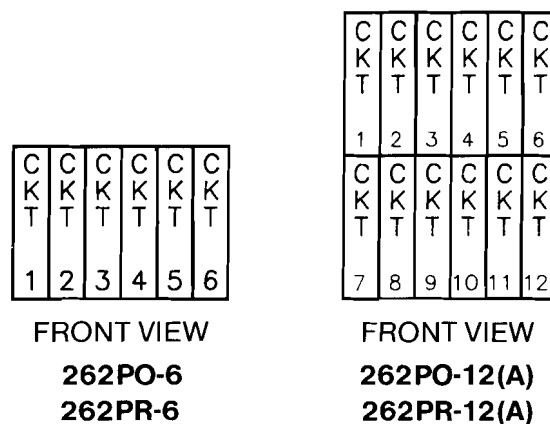
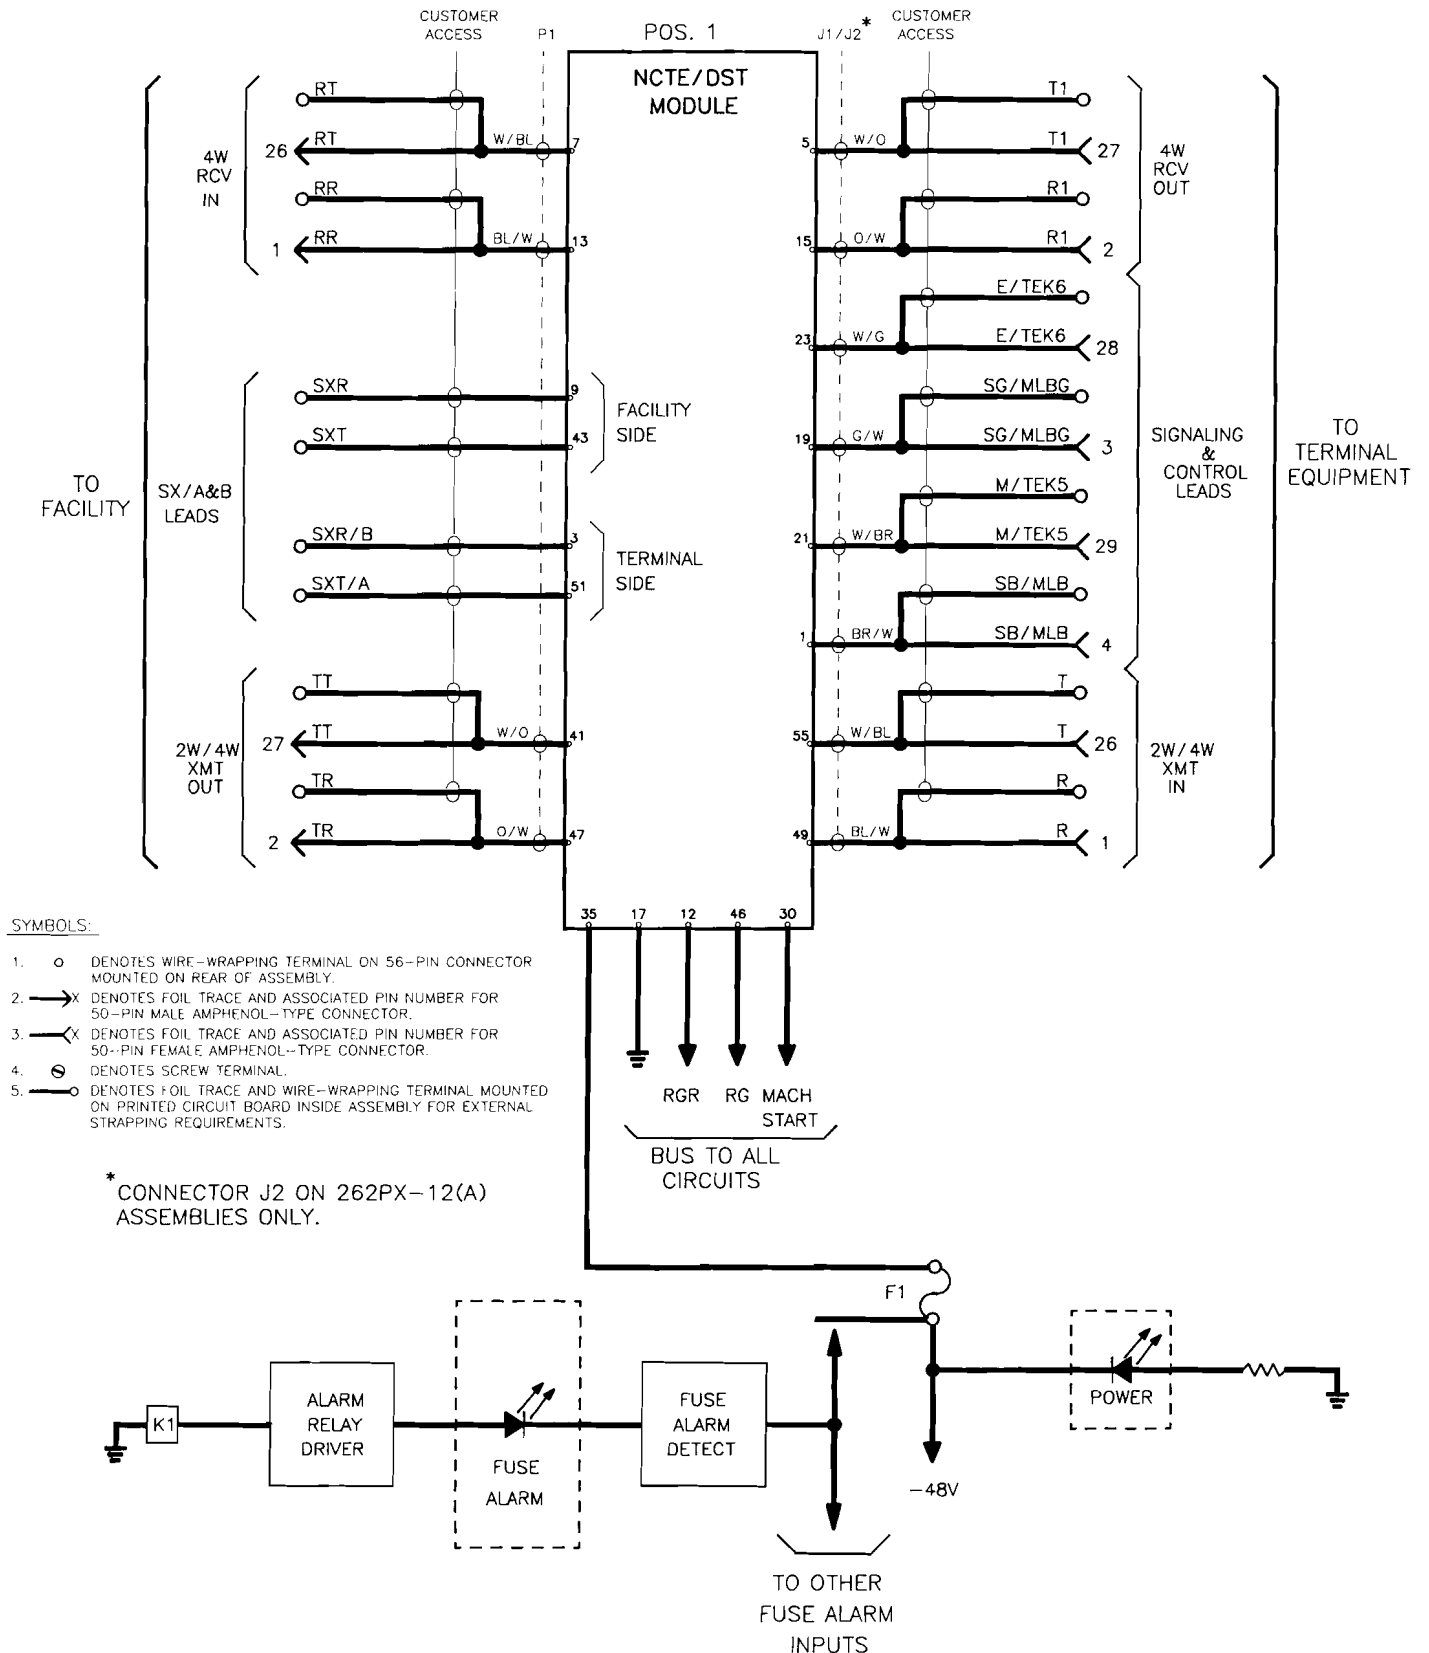

figure 2. Circuit numbering by module position in 262 Assemblies
figure 3. Pinout arrangement for module position 1 of all 262-6 and 262-12 Assemblies
2.05 **Pinout Arrangement, Cable Assignments, and Power/Ringing/Alarm Connections.** Circuit numbering by module position in the 262-6 and 262-12 Assemblies is shown in figure 2. Figure 3 shows the pinout arrangement for module position 1 in the 262-6 and 262-12 Assemblies. Tables 2 and 3 indicate the cable assignments for all module positions of the 262-6 and 262-12 Assemblies, respectively. Figure 4 shows power, ringing-generator, and optional customer-installed external fuse-alarm connections. Make all connections to the assembly in accordance with these tables and figures.